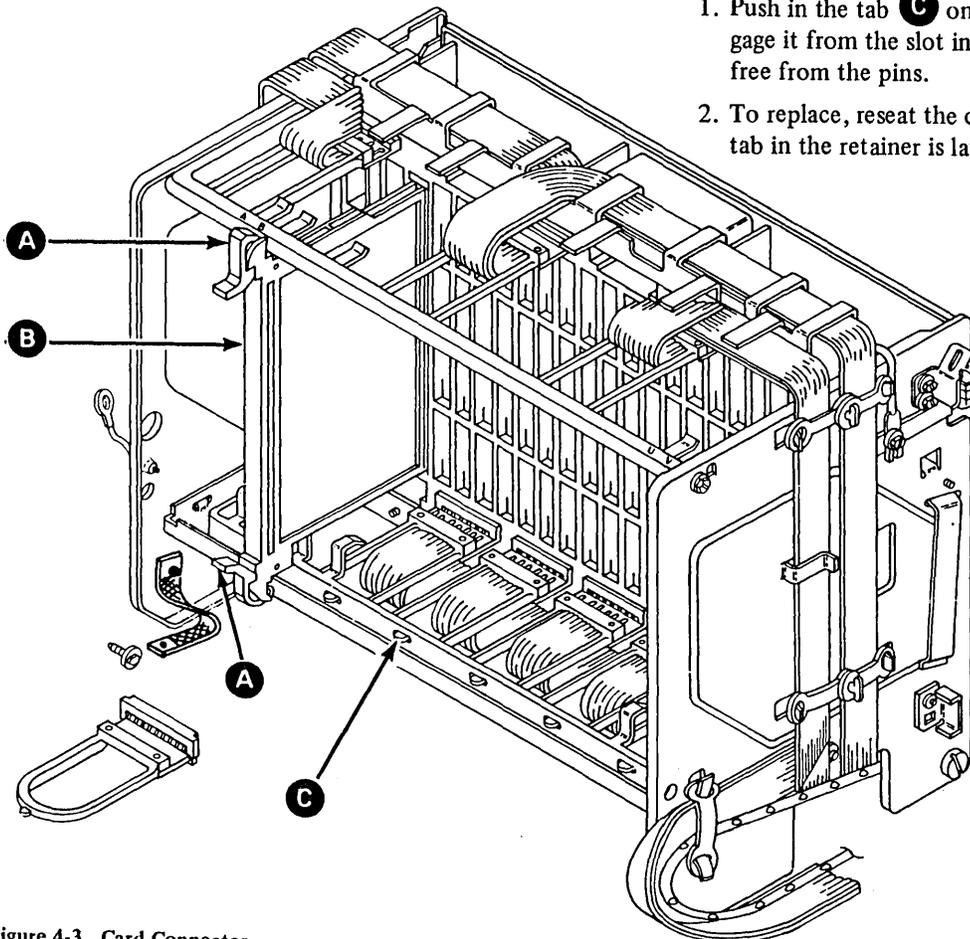

Figure 4-3. Card Connector
4.3 Card Removal and Replacement (Figure 4-3)
4.4 Internal Cable/Connector, Removal and Replacement (Figure 4-3)